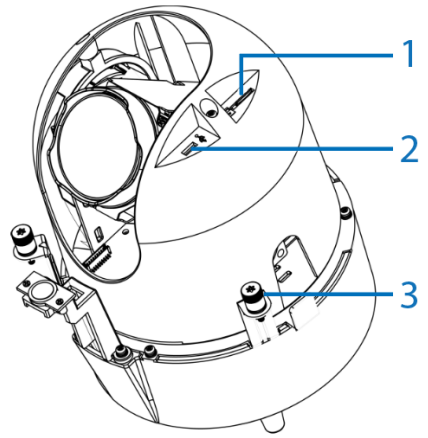

Figure 4
- Carefully insert (or remove) the micro SD card (1) (Figure 4) into (or from) the camera. **Note:** It is advised that you reboot the camera after inserting the micro SD card.
Note: The USB cable connection slot (2) (Figure 4) for Wi-Fi configuration is also located next to the micro SD card cover. The Wi-Fi option allows wireless configuration of the camera at the point of install in conjunction with the Illustra Tools app (Illustra Wi-Fi dongle required).
- Screw the three captive fasteners (3) (Figure 4) to **fully** secure the camera to the camera housing.